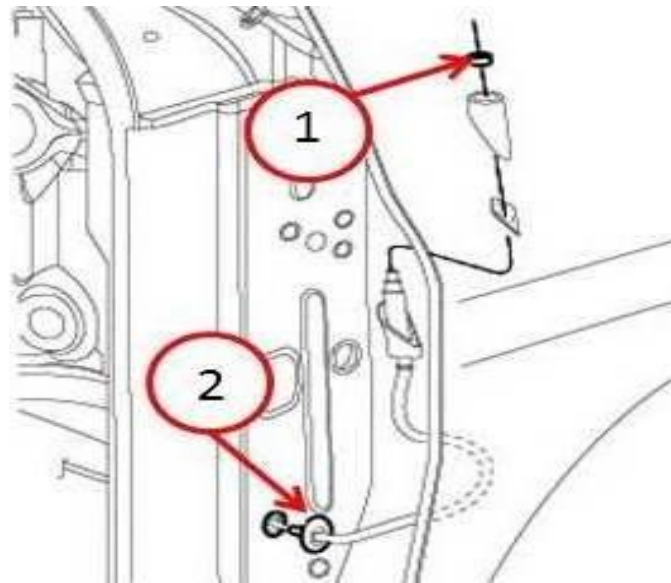

Fig. 2 Antenna Base and Cable Assembly
1. Inspect the antenna nut for cross threading on the antenna base and cable assembly(Fig. 2).